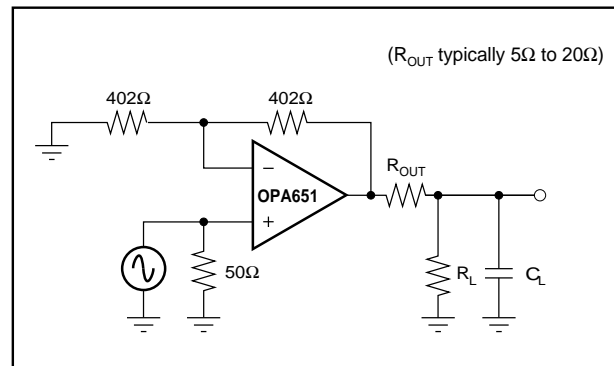

FIGURE 2. Driving Capacitive Loads.
The OPA651's output stage has been optimized to drive low resistive loads. Capacitive loads, however, will decrease the amplifier's phase margin which may cause high frequency peaking or oscillations. Capacitive loads greater than 10pF should be isolated by connecting a small resistance, usually 5Ω to 20Ω, in series with the output as shown in Figure 2. This is particularly important when driving high capacitance loads such as flash A/D converters. Increasing the gain from +2 will improve the capacitive load drive due to increased phase margin.
(6) eB is measured at the lead tips with the leads unconstrained.
(7) N is the maximum number of terminal positions.
(8) Corner leads (1, 4, 5, and 8) may be configured as shown in Figure 2.
(9) For automatic insertion, any raised irregularity on the top surface (step, mesa, etc.) shall be symmetrical about the lateral and longitudinal package center-lines.